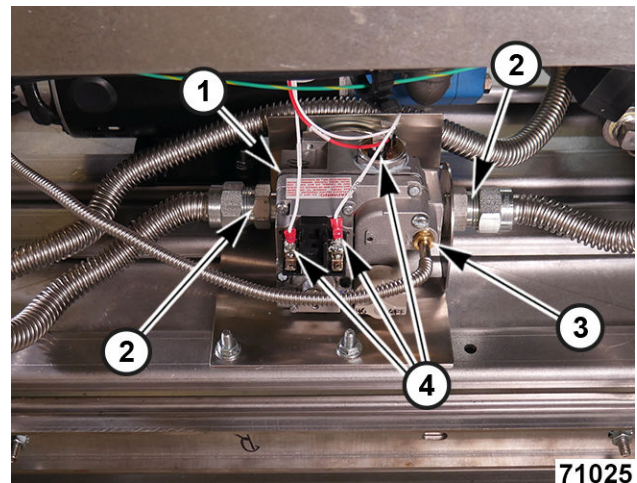

Fig. 47
2. Disconnect gas piping (2, Fig. 47) from gas combination valve (1, Fig. 47).
3. Disconnect pilot tubing (3, Fig. 47).
4. Document and remove wiring (4, Fig. 47).
11. Reconnect wires (4, Fig. 47).
12. Connect pilot tubing (3, Fig. 47).
13. Connect gas piping (2, Fig. 47)